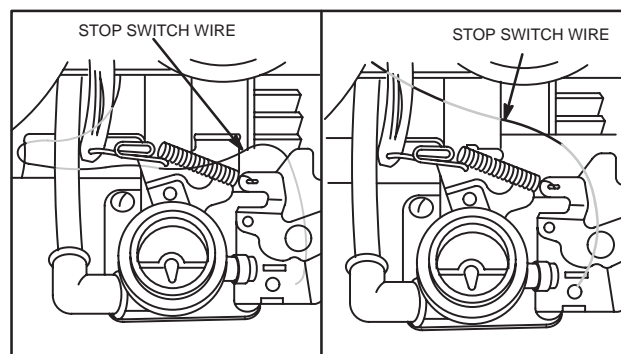

Fig. 250 – STOP SWITCH WIRES
- Install mounting bolts. Fig. 250 shows routings of stop switch wires.